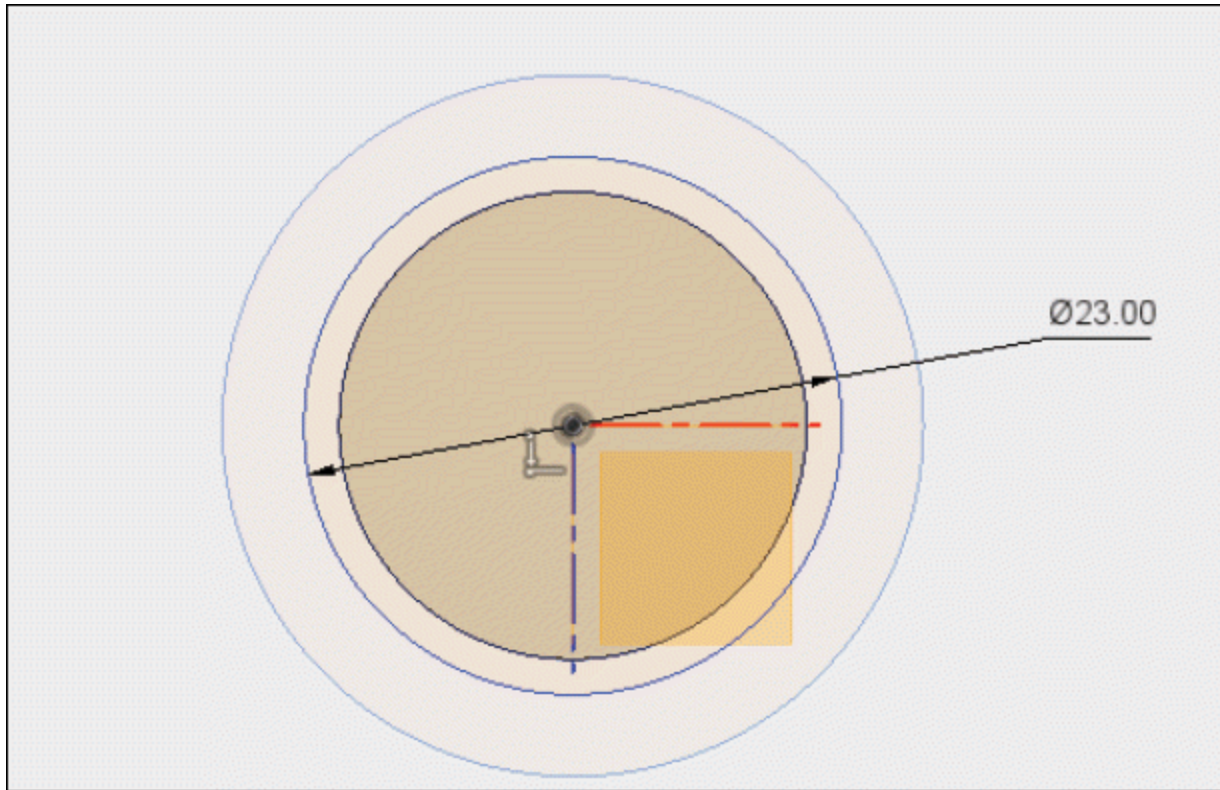

Figure-79. Creating third sketch of jug
- Create the sketch as shown in Figure-79 on newly created offset plane.